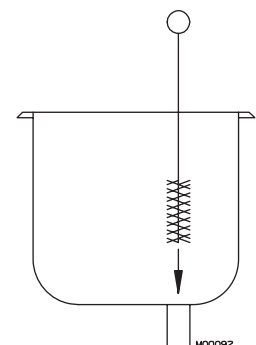

Figure 8-1 Sanitize hopper and its components
4. Pour sanitizing solution into the hopper pan. Using a clean brush, scrub the hopper walls, the mix feed port from the hopper to the cylinder, and the inside of the hopper cover. (See Figure 8-1)